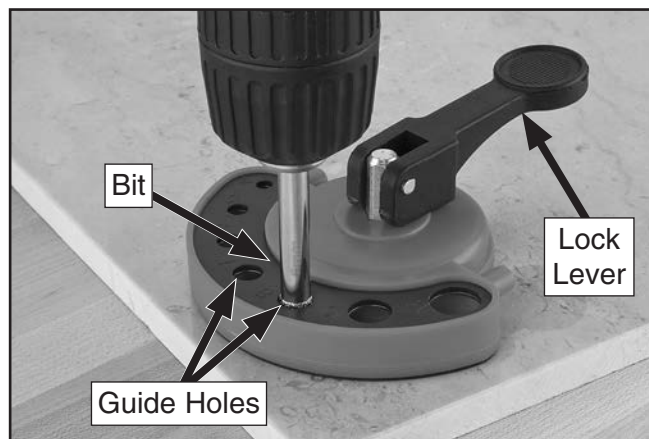

Figure 2. Model T10537 guide set up for drilling.
1. Press guide down onto workpiece, then flip lock lever, as shown in **Figure 2**, to secure guide down.